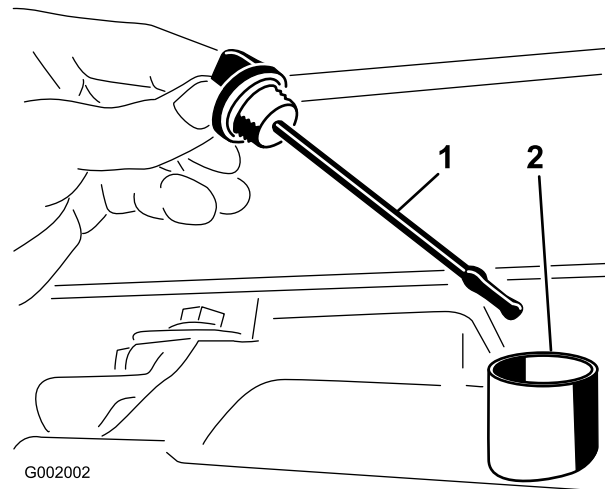

Figure 64
2. Remove the transaxle dipstick and wipe it with a clean rag (Figure 64).